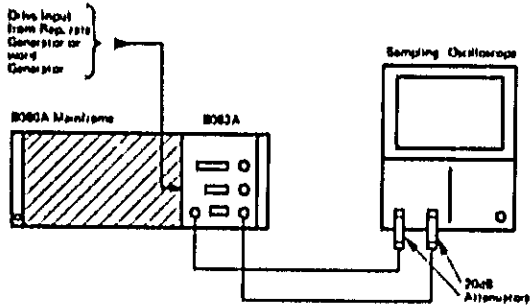

Figure 5-1. Duty Cycle, Transition Time, Distortion and Baseline Adjustments Test Setup.
1. Set up the equipment as shown in figure 5-1 and set the controls as follows: